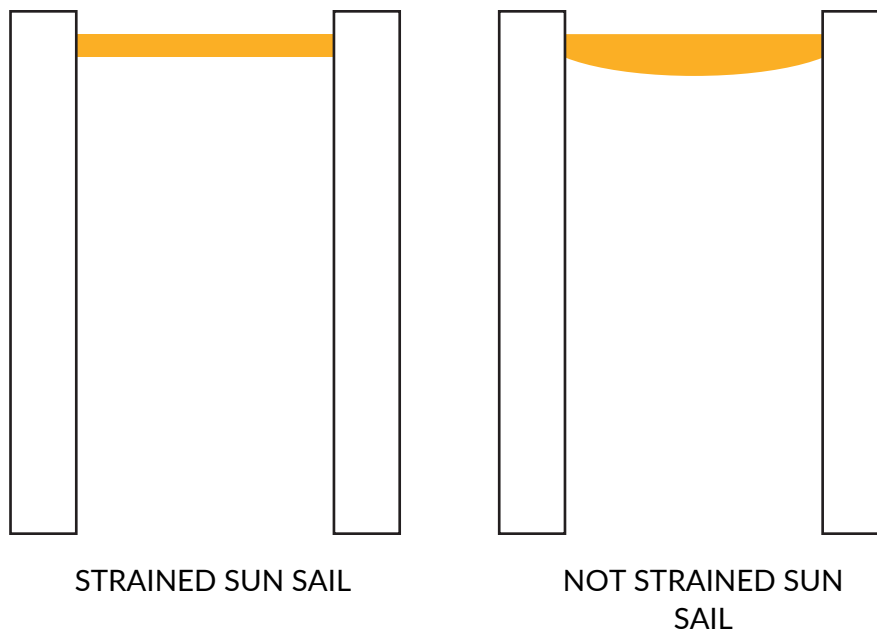

Figure 1. Possible ways of installing the sun sail
- The sun sail can be installed depending on the aesthetic concept of the site of fitting (Fig. 1.). Please remember that any residual water on the surface of sun sail is unacceptable. The fabric may not be able to pass all water through during very heavy rain or hail.